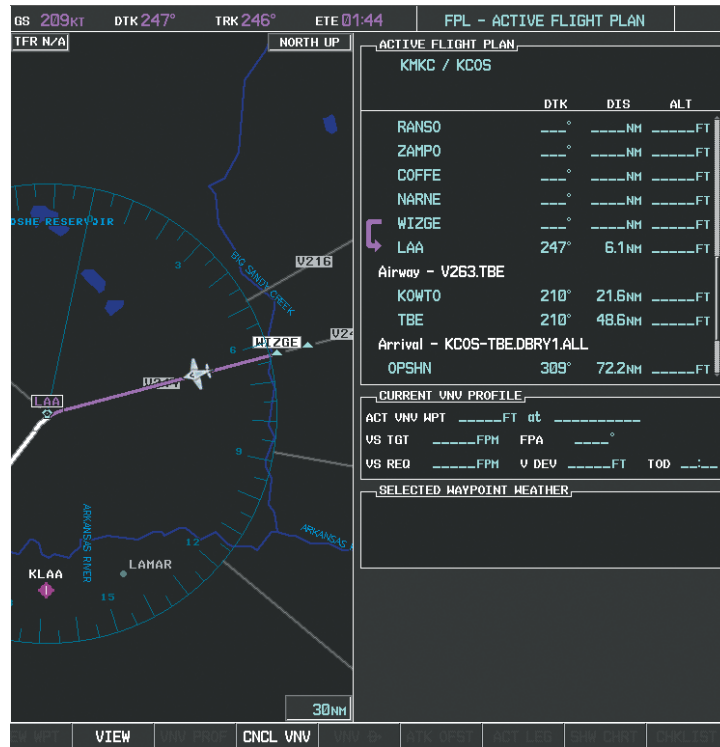

Figure 5-126 HYS to LAA Leg Active
10) At Lamar VOR (LAA) V263 is intercepted. See Figure 5-126.